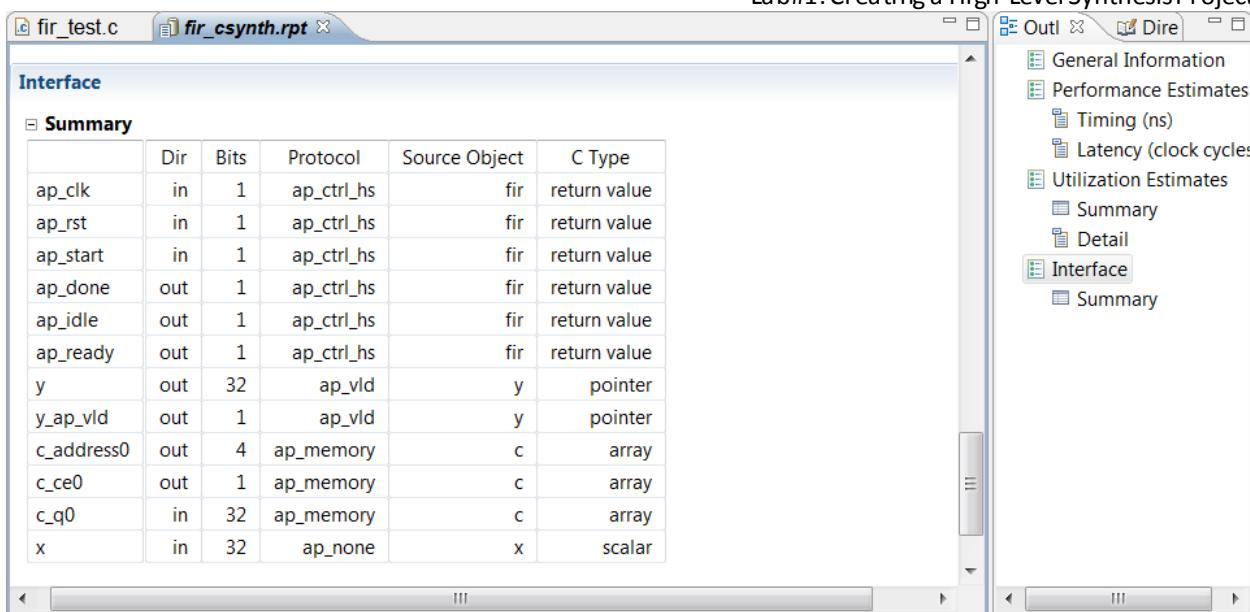

Figure 14: Interface Report
6. Click on Interface in the Outline tab (Figure 14).